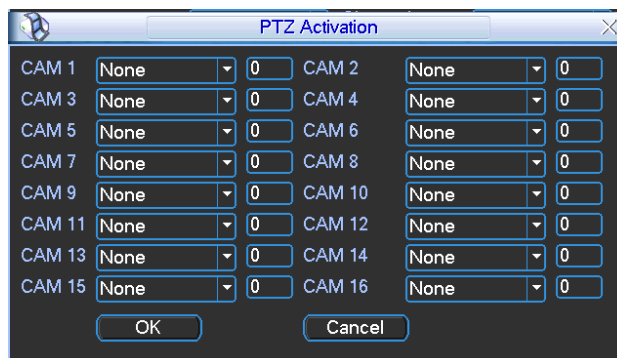

Figure 4-27
- PTZ activation: Here you can set PTZ movement when an alarm occurs. Such as go to preset, tour & pattern when there is an alarm. Click “select” button, you can see an interface is shown as in _Figure 4-27.